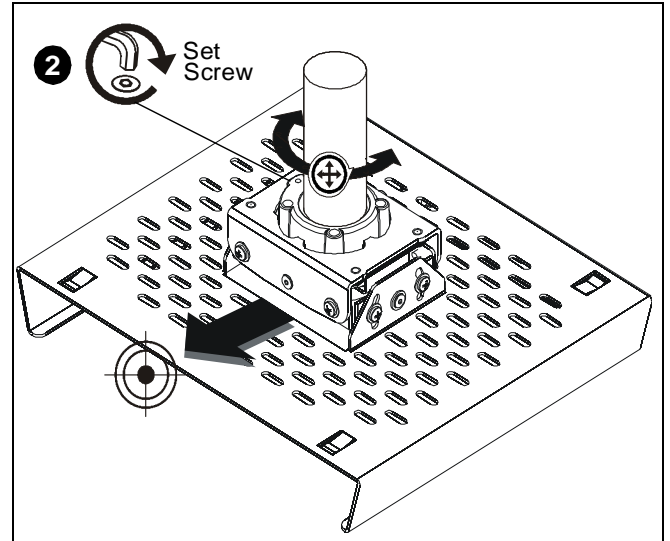

Figure 3
1. Turn MSP-CCS3 sleeve clockwise or counterclockwise until the front of the MSP-CCS3 is facing target. (See Figure 3)